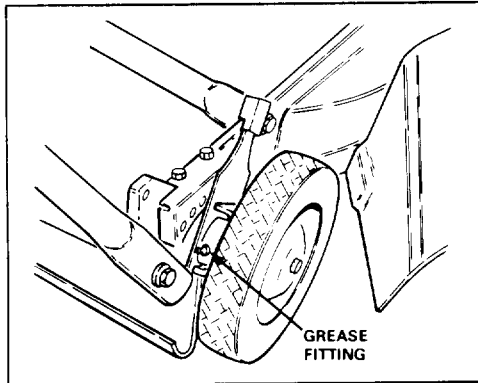

Figure 18
1. Move rear wheel height-of-cut levers to center setting. Wipe grease fittings with clean rag (Fig. 18). Install grease gun onto fitting and gently apply 2 or 3 pumps of #2 Multi-Purpose Lithium Base Grease. Excessive pressure may damage seals.